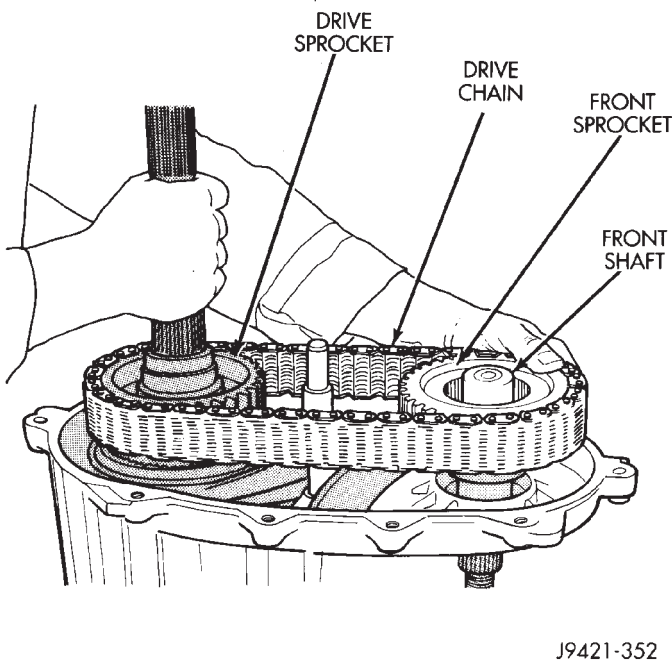

Fig. 90 Drive Chain And Front Sprocket Installation
- (2) Insert front sprocket in drive chain (Fig. 90).
(3) Install drive chain around mainshaft sprocket (Fig. 90). Then position front sprocket over front shaft.
(4) Raise mainshaft about 2.54 cm (one inch) and seat front sprocket on front output shaft.